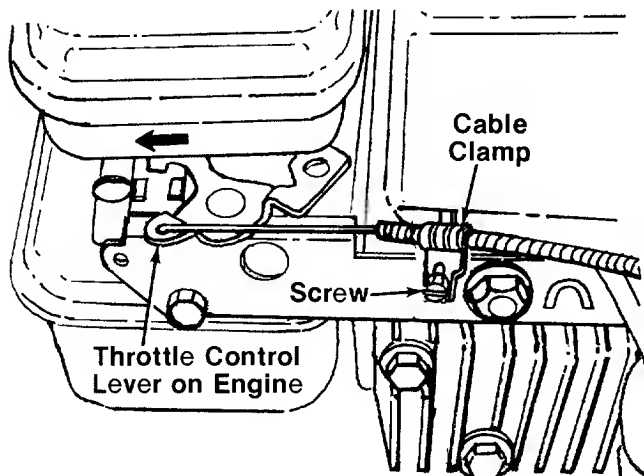

FIGURE 6.
11. Push the throttle control lever on the engine to the full open position (as far toward the outside of the unit as it will go) as shown in figure 6.
13. Remove the screw on the cable clamp shown in figure 6. Slip the control casing under the clamp. With the throttle lever on the engine still in the full open position, replace and tighten the screw to secure the throttle control cable.